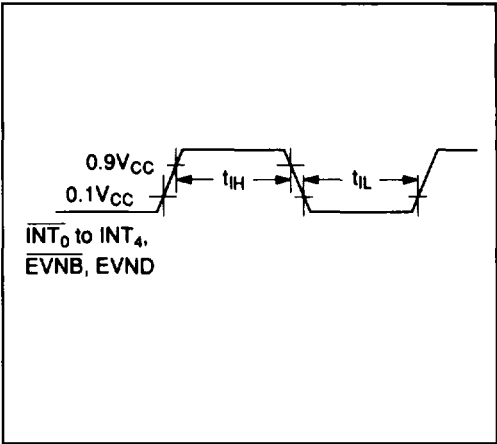

Figure 103 Interrupt Timing
5. Refer to figure 103. t_{cyc} applies when the MCU is in standby or active mode.